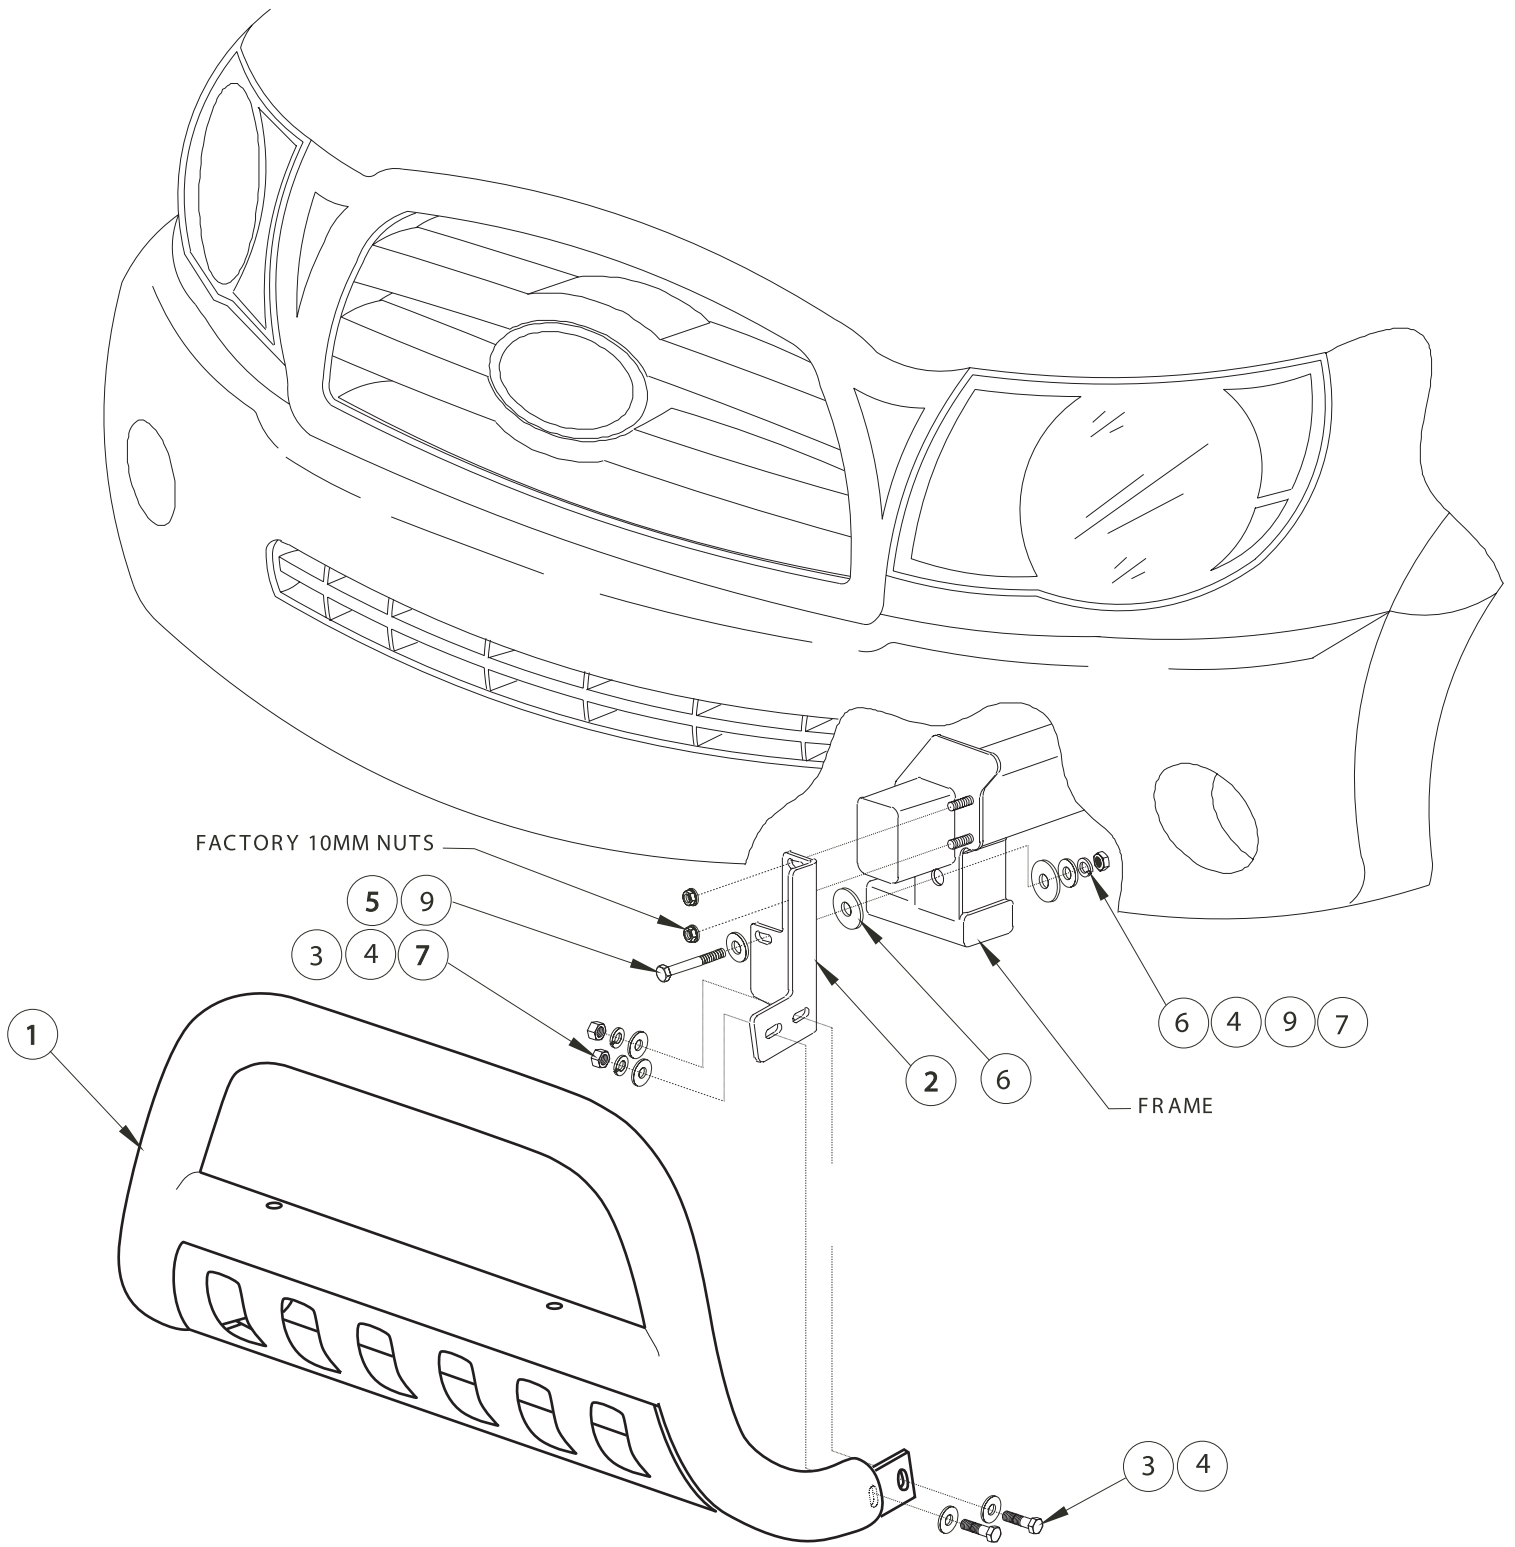

FIGURE 1
2. Determine passenger and driver brackets. From underneath vehicle, remove tow hooks. Tow hooks will not be reinstalled. Locate the two factory studs that hold the bumper support to the frame. Remove the nuts and install mount bracket onto the studs and replace factory nuts. Insert the 10mmx120mm bolt through the frame and into the mount bracket. Secure with 2 spacer plates with M10 Flat Washer, Lock Washers and M10 Hex Nut, as shown. **SEE FIGURE 1.**